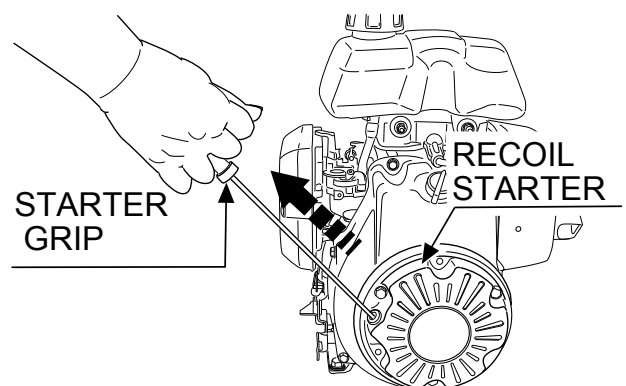

Figure 14. Starter Grip
5. Grasp the starter grip (Figure 14) and slowly pull it out. The resistance becomes the hardest at a certain position, corresponding to the compression point. Rewind the rope a little from that point and pull out sharply.